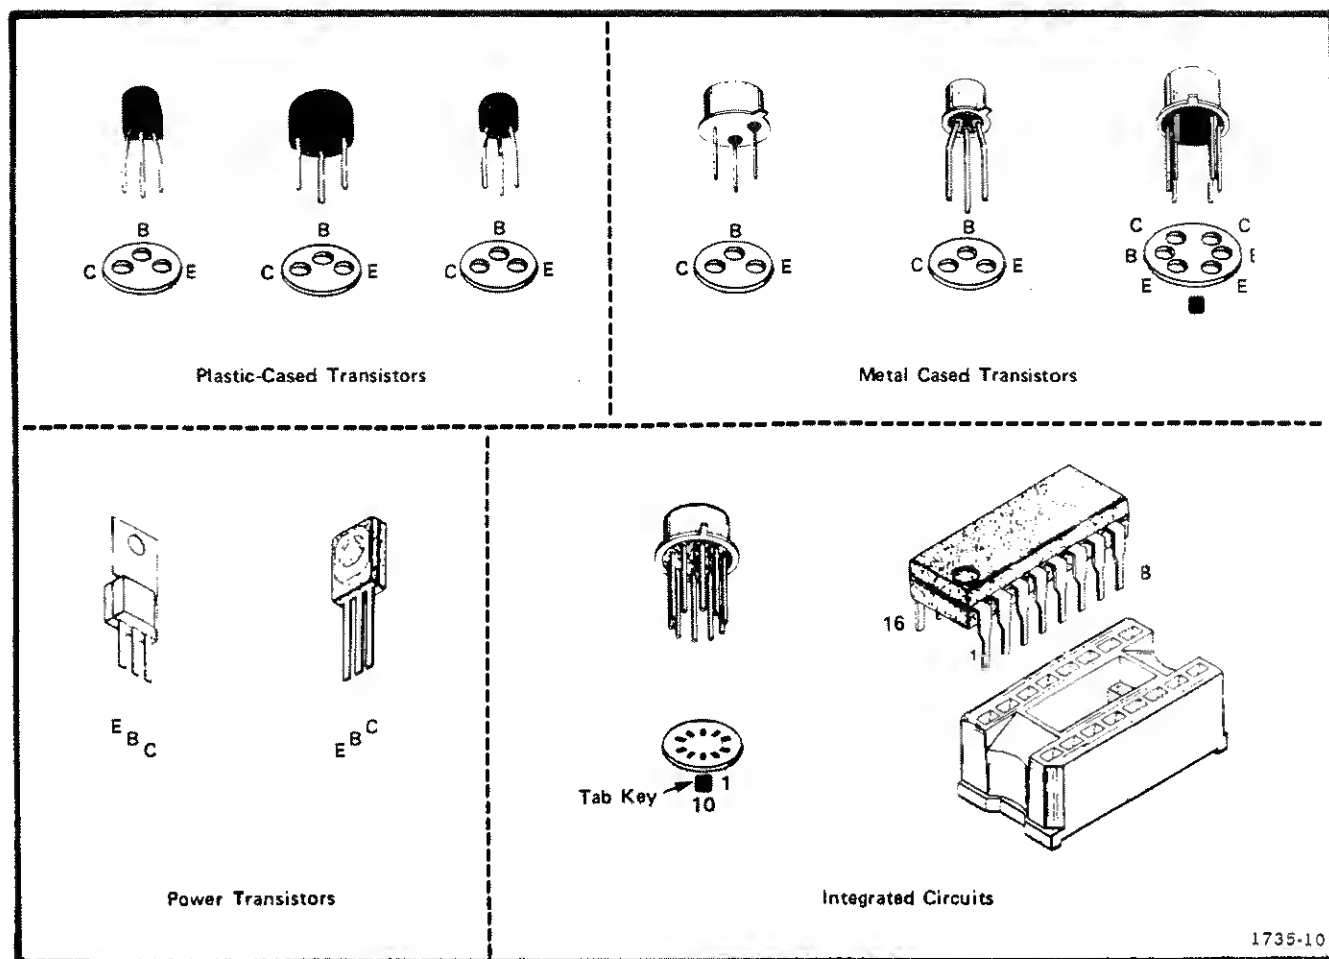

Fig. 6-4. Electrode configuration for semiconductor components.
**Transistor and Integrated Circuit Electrode Configuration.** Lead identification for the transistors is shown in Fig. 6-4. IC pin-out diagrams are shown, when necessary, on the back of the adjoining pullout schematic diagram.
4. Be sure the component (transistor or IC) is inserted properly in the socket (see Fig. 6-4 or the manufacturers data sheet).
Replacement semiconductors should be of the original type or a direct replacement. Fig. 6-4 shows the lead configuration of the semiconductors used in this instrument.